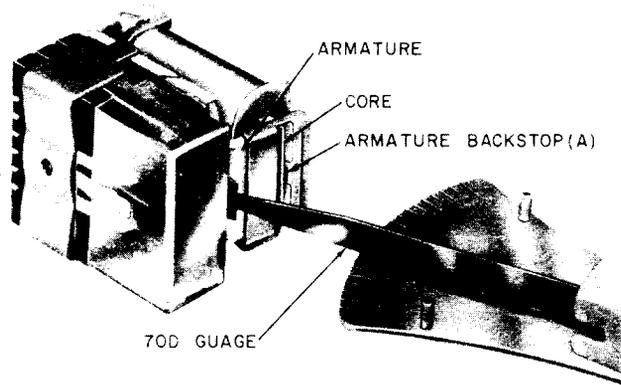
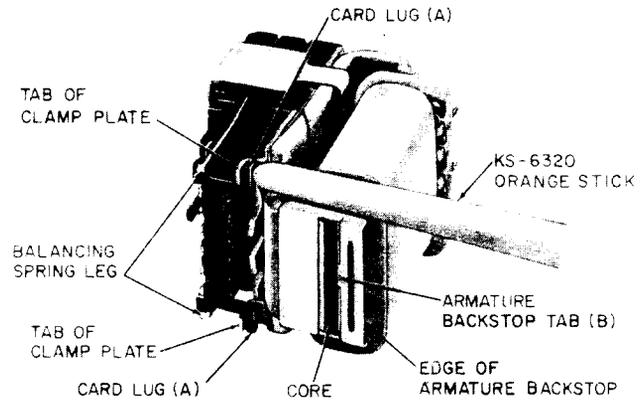

Fig. 4—Measuring Armature Back Tension
Fig. 5—Checking Balancing Spring
2.05 Armature Back Tension Fig. 4(A):
Use the 70D gauge, as shown in Fig. 4, applied at the center of the armature in front of the clamp plate shown in Fig. 5. Care shall be taken that the reed of the gauge does not touch the cover.
2.06 Balancing Spring Tension [Fig. 5(A) and (B)]: With the relay in the unoperated position, the combined tension of the balancing spring legs shall be sufficient to hold the card lugs against the outer tabs of the clamp plate and the armature backstop tab against the core.
To check this requirement, electrically operate and release the relay. Using the KS-6320 orange stick, apply pressure to the edge of the armature backstop toward the core (see Fig. 5) and then alternately to each card lug toward its associated clamp plate tab. The requirement is met if there is no observable movement of the armature backstop tab with respect